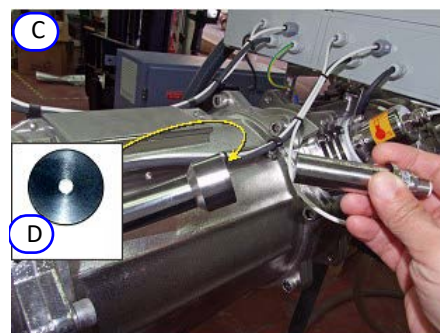
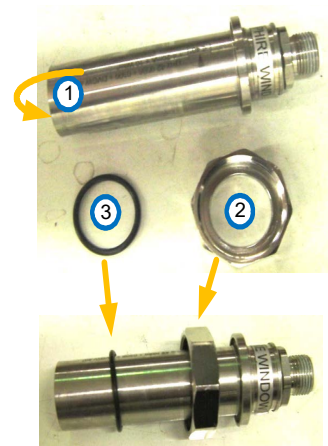

Figure 10-25: Removing a Sensor C 2 (Generic View)
Figure 10-28: Sensor, nut and washer
- Step 3.** Carefully pull the sensor out of the housing (**Figure 10-25**). If a pinhole (D) is present it slides out. The large nut comes off together with the sensor.
- Step 4.** Check the sensor's lens (1 in **Figure 10-28**) for condensation. If present, using a dry lens cloth, dry the lens thoroughly.
- Step 13.** Unpack the new sensor (**Figure 10-28**) and the sensor pinhole (**D** in **Figure 10-25**, if supplied).